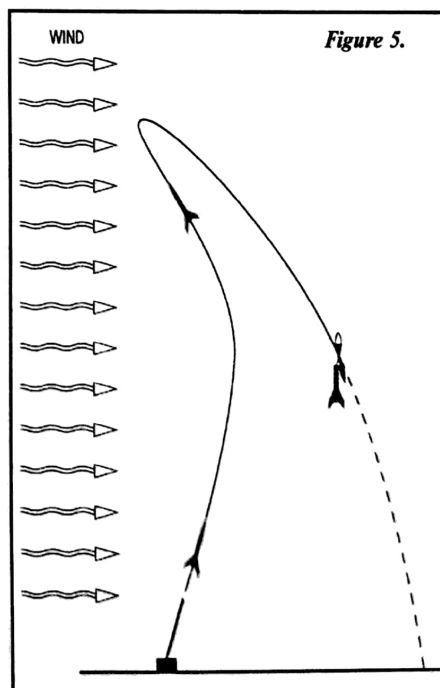

Figure 5.
3. Flying in Excessive Wind—Flying your model rocket in winds above 15 miles per hour can cause it to fly far off course. Weathercocking can cause your rocket to turn and head into the direction of the wind. Figure 5 shows how wind can push on a rocket, much as it does on a weathervane, so as to turn the nose into the wind, just as it turns the arrow of the weathervane. If the launch rod is not set at the correct angle for the prevailing wind and for your rocket, weathercocking can cause the rocket to pitch over and fly a long way—into the wind. Fortunately, the same wind can grab your rocket's deployed parachute and return